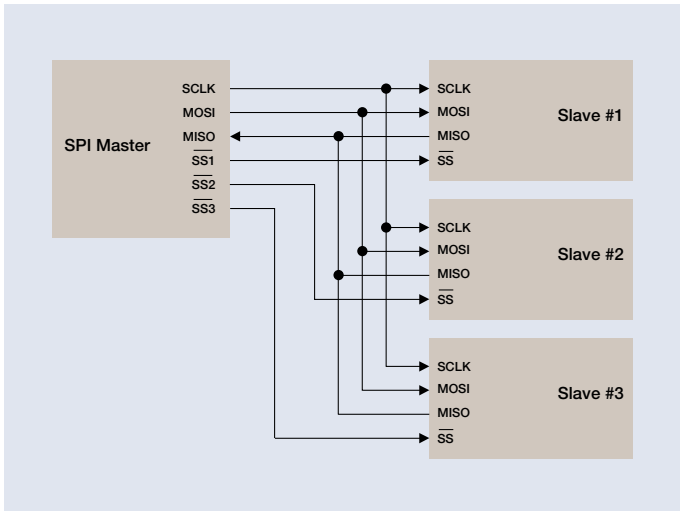
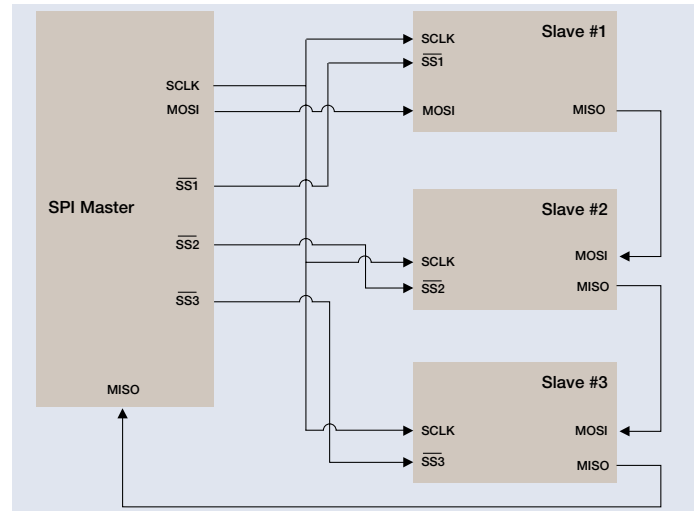

Figure 8. Common SPI configuration.
Figure 9. Daisy-chained SPI configuration.
The SPI bus is a master/slave, 4-wire serial communications bus. The four signals are clock (SCLK), master output/slave input (MOSI), master input/slave output (MISO), and slave select (SS). Whenever two devices communicate, one is referred to as the "master" and the other as the "slave". The master drives the serial clock. Data is simultaneously transmitted and received, making it a full-duplex protocol. Rather than having unique addresses for each device on the bus, SPI uses the SS line to specify which device data is being transferred to or from. As such, each unique device on the bus needs its own SS signal from the master. If there are 3 slave devices, there are 3 SS leads from the master, one to each slave as shown in Figure 8.
In Figure 8, each slave only talks to the master. However, SPI can be wired with the slave devices daisy-chained, each performing an operation in turn, and then sending the results back to the master as shown in Figure 9.